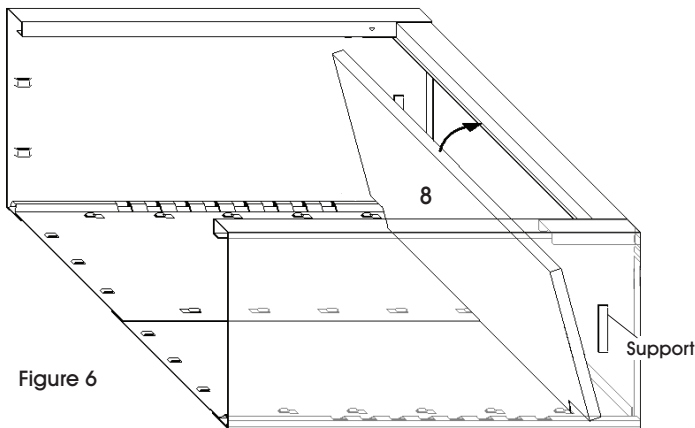

Figure 6
- Install the bottom shelf (8) by placing it in the bookcase with the notched corners toward the back panels. (See Figure 6)
- Angle the bottom shelf and engage the supports located on the two back panels. (See Figure 6)